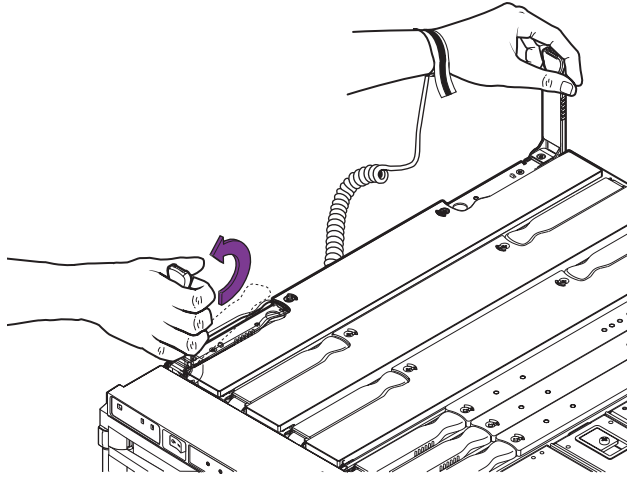

FIGURE 15-4 Raising the CPU/Memory Board Ejector Levers
9. Raise the ejector levers simultaneously until they are 90 degrees straight out from the board (FIGURE 15-4).